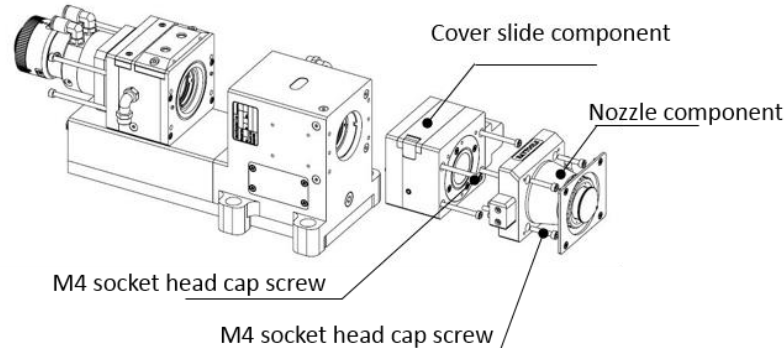

Figure 6.7 — Framing
- Place the laser head horizontally. As shown in Figure 6.7, remove the locking screws from bottom to top;
- As the sequence shown in figure 6.7, reassemble and lock the screw.